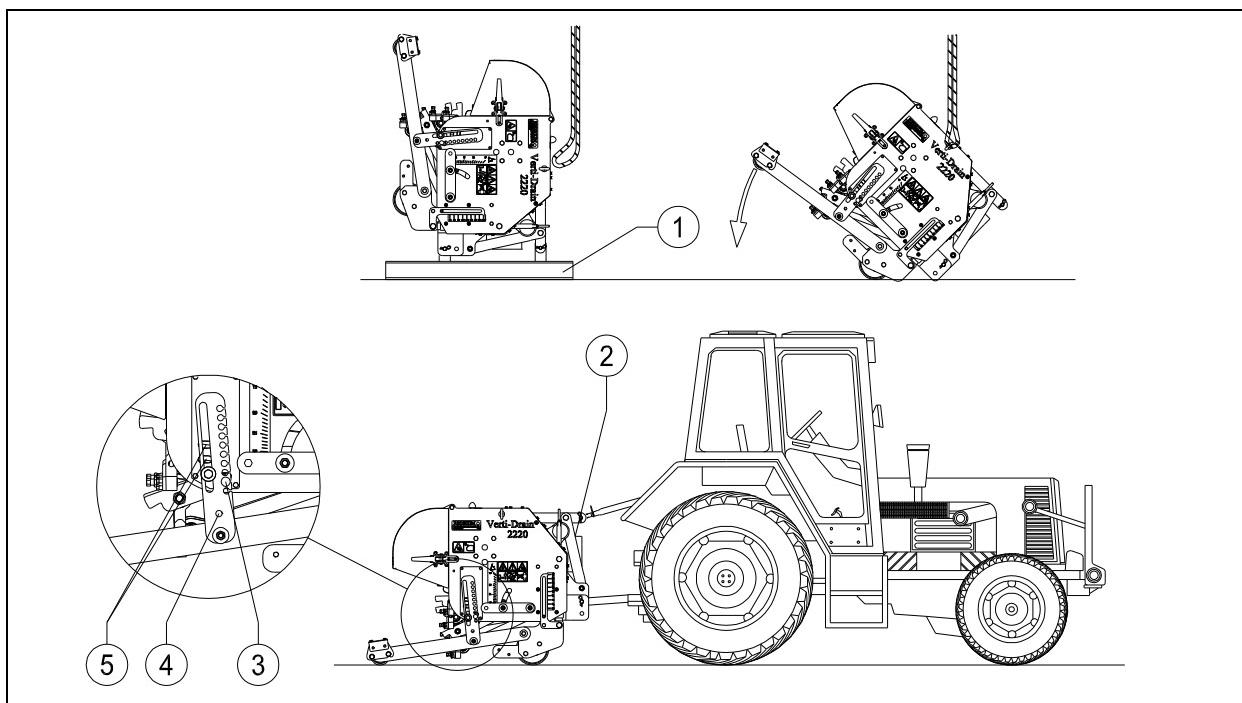

Figure 8
The machine is placed vertically on the pallet. To remove the pallet and to place the machine horizontally on the ground, take the following steps (see Figure 8):
- ☞ To prevent too much dragging of the rear roller in case of shallow pricking, pushing the protection pin (3) in one of the holes (5) will block the rear roller (see Figure 8).
- ⚠ If the Verti-Drain is incorrectly attached to the tractor, the different PTO angles can cause vibrations in the driveline of the machine (see Figure 8). These vibrations can damage the machine and the holes in the ground.